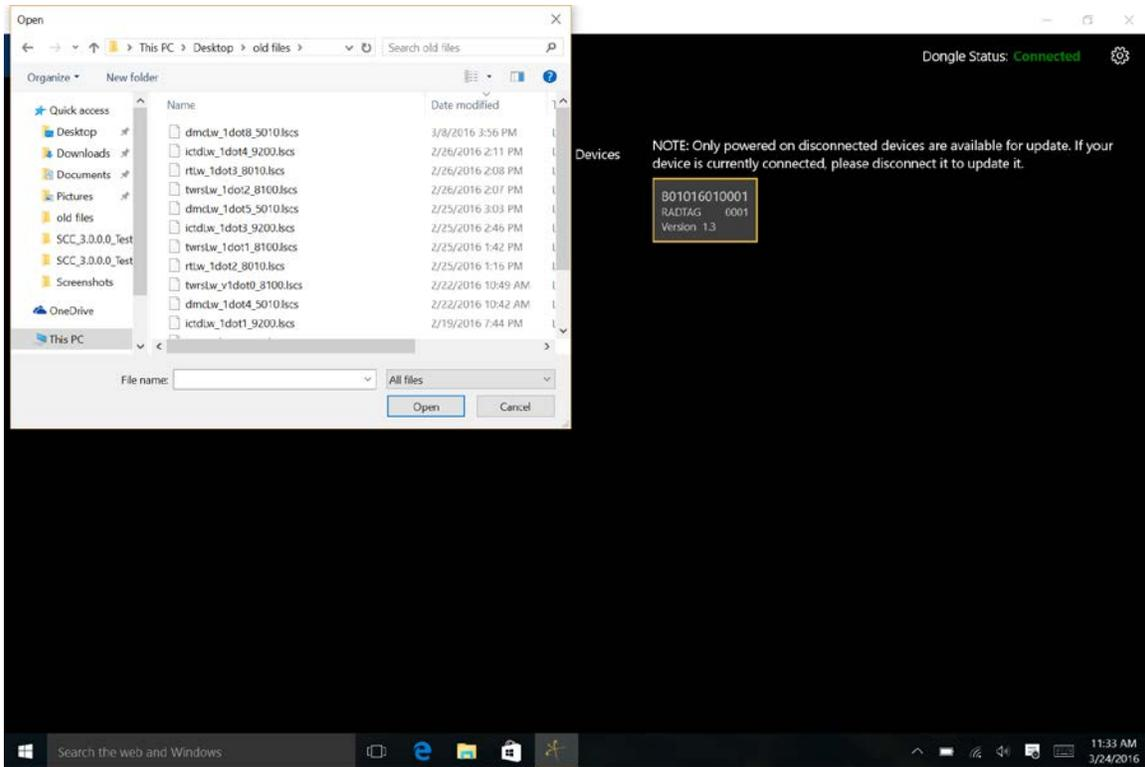

FIGURE 7 SELECT DEVICE FIRMWARE
3. From the Firmware file selector, click the ... box and select the firmware file previously saved to the Tablet/PC (see Figure 7) and click open